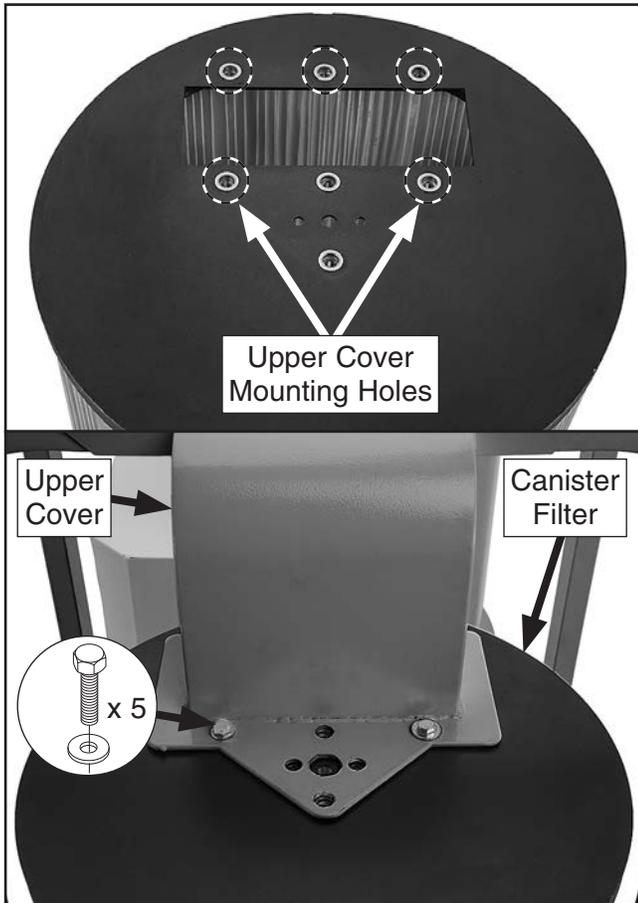

Figure 24. Canister filter mounted to upper cover.
20. Place rubber gasket on top of canister filter assembly, then attach canister filter to bottom of upper cover where shown in **Figure 24** (inset) using (5) $\frac{5}{16}$ "-18 x $\frac{3}{4}$ " hex bolts and (5) $\frac{5}{16}$ " flat washers (see **Figure 24**).